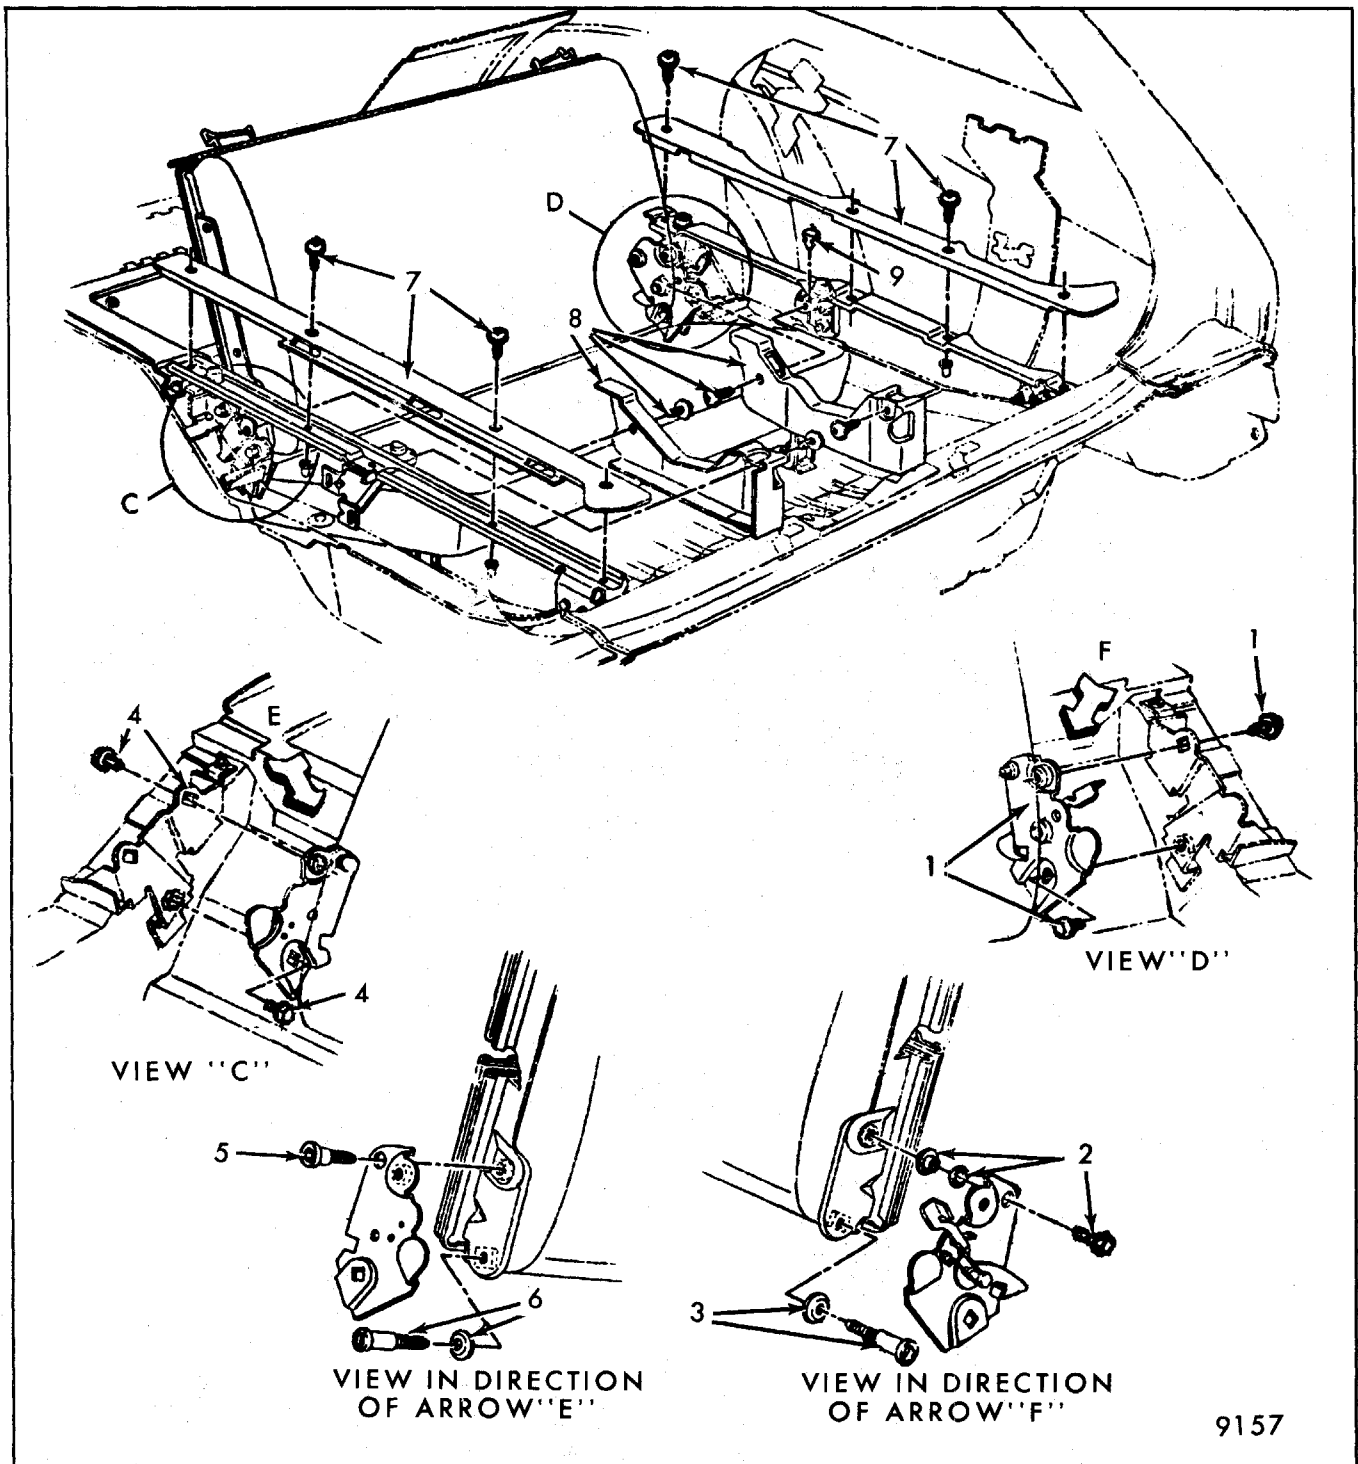

Fig. 9-87-Folding Third Seat Back and Lock Installation - "A" Body Three-Seat Styles
1. On "A" body styles (Fig. 9-87), remove
Removal and Installation (Refer to Fig. 9-87)